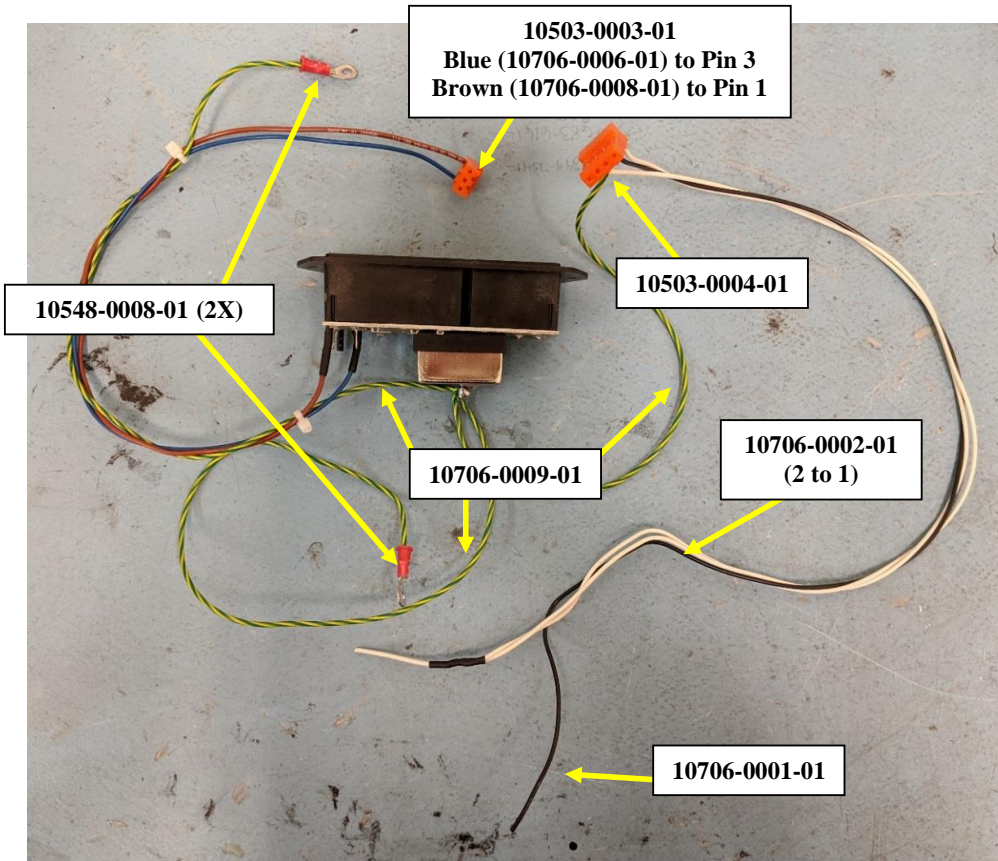

Figure 11
- 8.3. Cut 15" pieces of 18AWG Wire in Brown (10706-0008-01), Blue (10706-0006-01), Green/Yellow (10706-0009-01) and a second Green/Yellow. Strip one end of Blue and Brown Wires ¼" (see Figure 11). Strip both ends of Green/Yellow Wires ¼".
- 8.5. Terminate one end of the two 15" Green/Yellow Wires with two (2) #8 Ring Terminals (10548-0008-01), see Figure 11.
- 8.6. Crimp un-stripped end of the Brown and Blue Wires into the 3 Pin .156" Housing (10503-0003-01). Blue to pin 3 and Brown to pin 1 as shown in Figure 11.